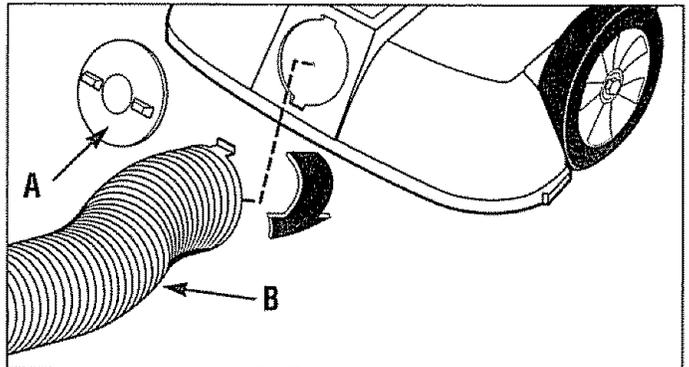

Figure 16: Remove vacuum inlet cap and install vacuum hose.
1. Remove the vacuum inlet cap (A, Figure 16) by twisting the cap counterclockwise approximately 1/4 turn until the bar on the cap is aligned with the arrow at the **REMOVE** position. Lift the cap off the inlet opening. **Do not misplace the vacuum inlet cap.**
2. Line up the tabs on the hose (B) with the slots in the vacuum inlet opening and insert the hose. Turn the hose approximately 1/4 turn clockwise until it is in the **LOCK** position. See Figure 16. (The hose support handle should now be on the top of the hose.)